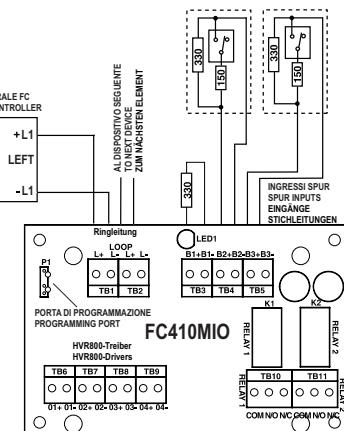

Fig. 3: SPUR circuits (Class B) Normally Open Contacts, Short Circuit = Fault.
- 4 See Fig. 3 and 4 for FC410MIO simplified wiring diagrams.